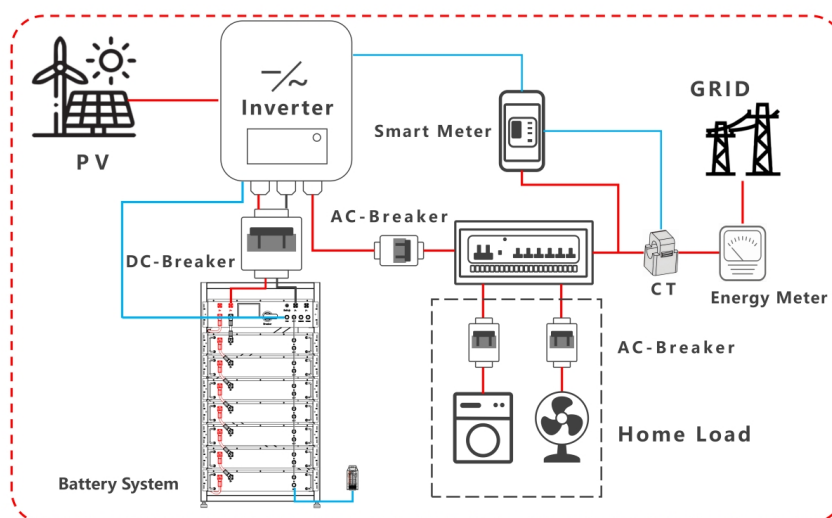

Figure 2.6-1
1. The battery cluster systems in Figures 2.6-1 and 2.6-2 are arranged in a series stacking configuration;